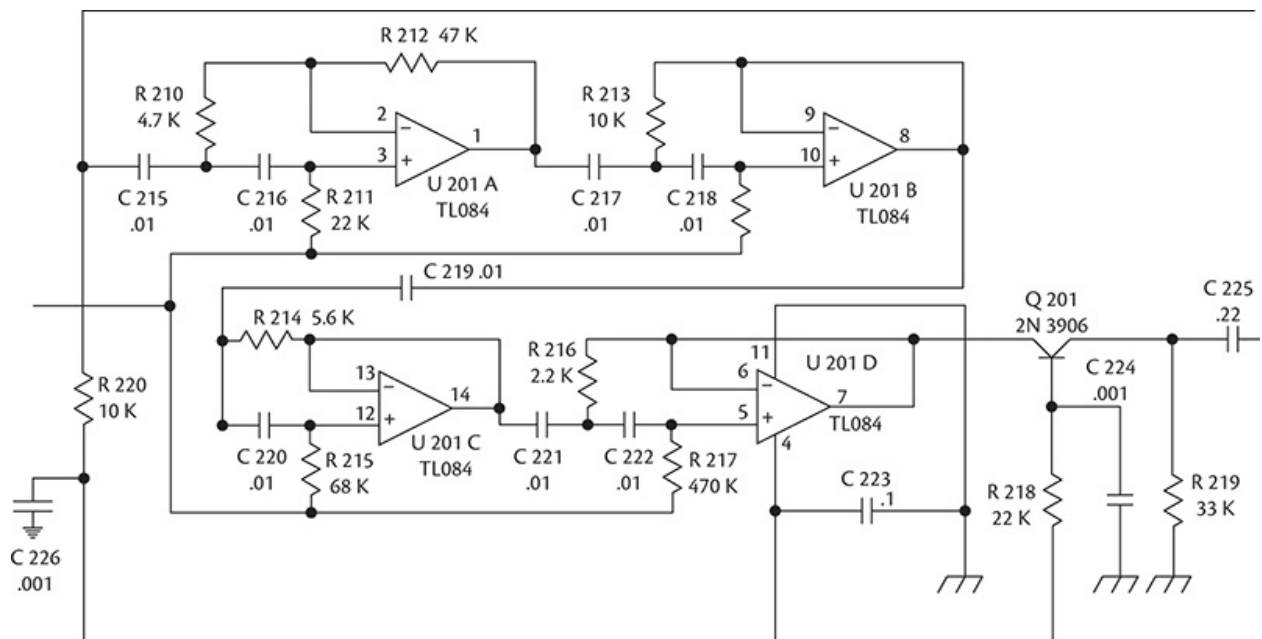

FIGURE 8-2 Section of a schematic diagram.
- *Schematic diagram.* This shows all the components and interconnections but does not indicate their purposes by specifying sections or overall structure. This is the street-level map (Figure 8-2).
Every part normally has its own call number, but multisection integrated circuits (ICs) such as op amps may be shown with each section as a separate device, even though they're really in one package. In Figure 8-2, the TL084 chip has four sections, each labeled A, B, C or D. On another schematic, the same component could be drawn as one rectangle resembling the shape of the real thing, with all four sections inside. In that case, each section's triangular op-amp symbol might be drawn inside the little box, but you can't count on that. Presenting the part as separate sections helps keep the signal flow clearer and is the preferred method.